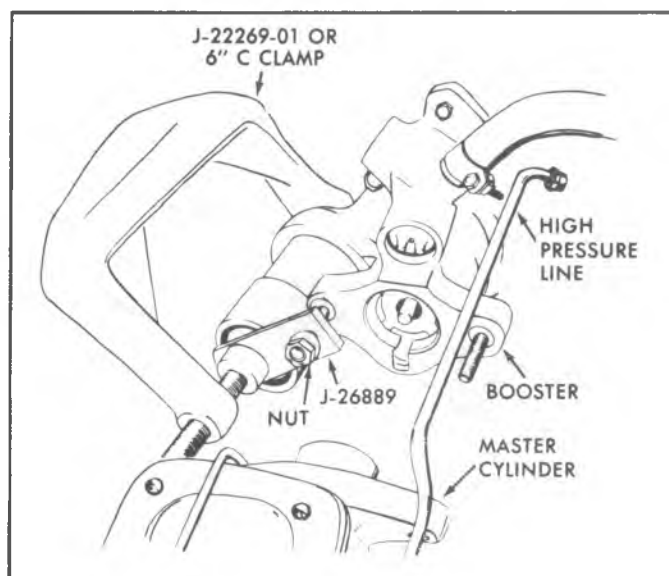

Fig. 5-6E--Compressing Accumulator With J-26889
- Place the accumulator retaining cap Tool J-26889 over the master cylinder stud and install the nut as shown in Figure 5-6E.
(6" minimum), depress the accumulator. Insert a punch into the hole in the housing and remove retaining ring with a small screwdriver, (fig. 5-6E).
17. Using Tool J-22269-01 or a large "C" clamp (6" minimum) depress the accumulator making certain that the accumulator is compressed straight (fig. 5-6E).